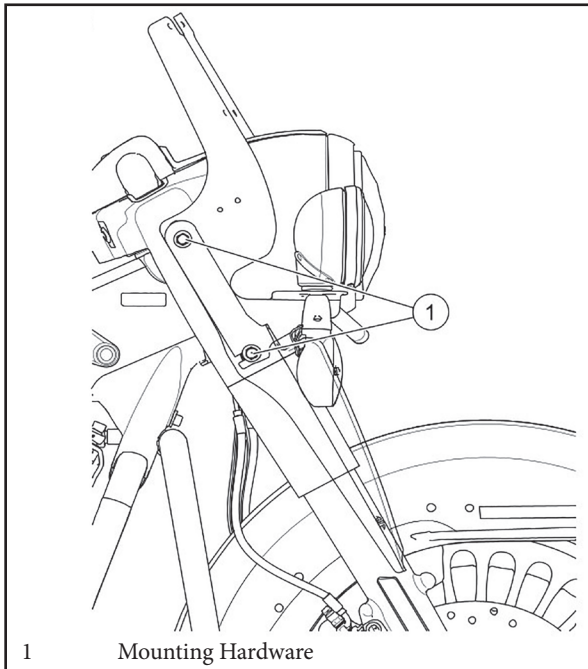

Figure 1. Wind Deflector, Right Side View
1. See Figure 1. On right side of vehicle, locate two mounting acorn nuts which secure the nacelle and the passing lamp bracket to the fork assembly.